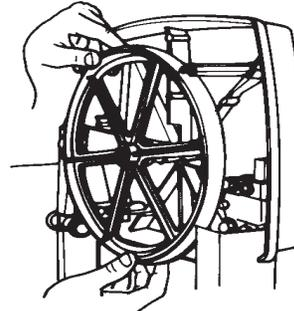

Fig. 3
- c. Remove the upper wheel, as seen in Figure 3, and clamp it in a bench vise.